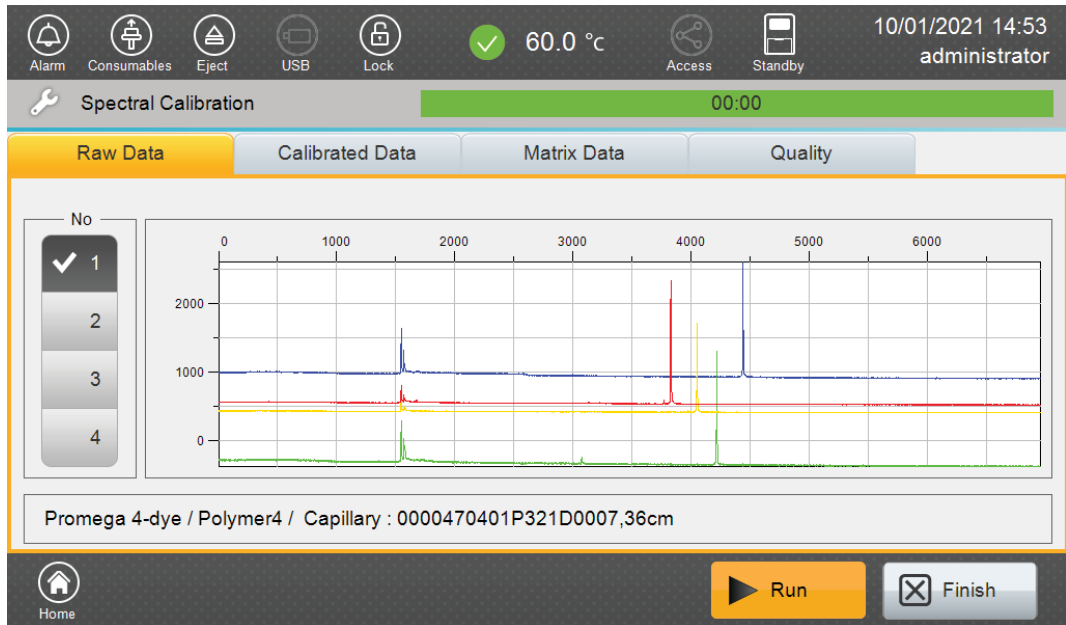

Figure 24. Spectral Calibration 'Raw Data' tab screen.
- Following the run, the 'Raw Data' tab (Figure 24) will be displayed. The minimum peak height for spectral calibration is 500 relative fluorescent units (RFU) and the maximum peak height is 32,767RFU.
1. Updated Figures 24 and 25.